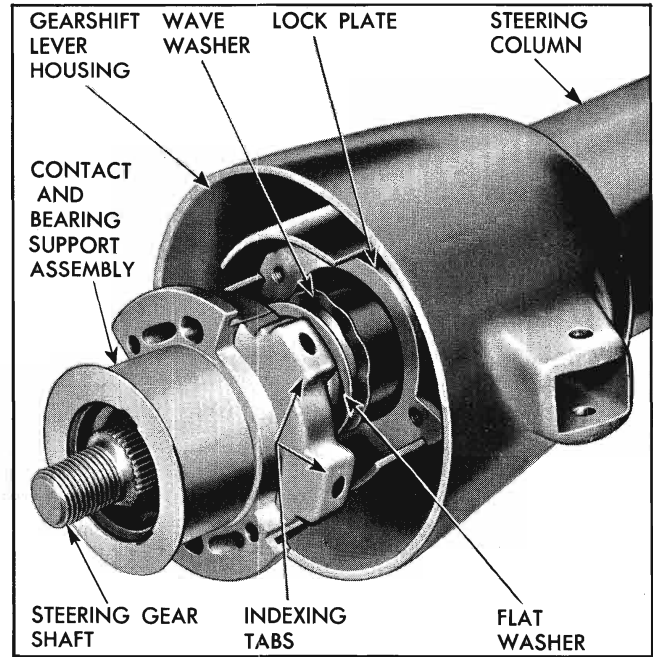

Fig. 9-15 Removing Upper Bearing Assembly
12. Remove upper bearing support assembly from top end of shifter tube (Fig. 9-15).